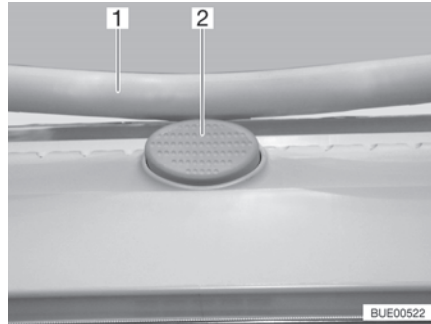

Fig. 53 Safety knob (Heki skylight)
- Press the safety knob (Fig. 53,2) and pull the bar (Fig. 53,1) down with both hands.
- Push the bar upwards with both hands until it is above the safety knob (Fig. 53,2).